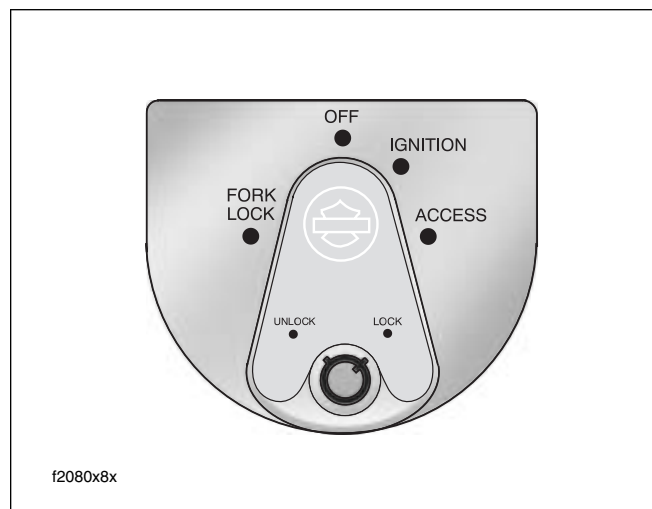

Figure 3-7. Ignition Switch (FLHX, FLHT/C/U, FLTR)
- See Figure 3-7. “Key ON” means that the ignition key is turned to **IGNITION** and the engine stop switch is set to **RUN** (although the engine is **not** running).